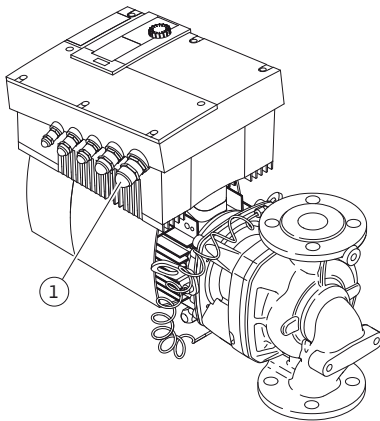

Fig. 24: M25 threaded cable connection
- The electrical connection must be established via a fixed power cable (cross-section to be maintained: 4 x 1.5 mm², min.; 4 x 4 mm², max.), which has a plug attachment or an all-pole switch with a contact opening width of at least 3 mm. The power cable is to be fed through the M25 threaded cable connection (Fig. 24, Item 1).